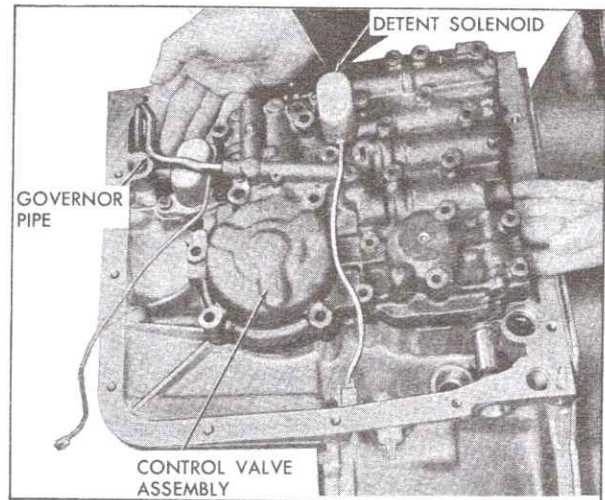

Fig. 7-143 Removing Control Valve Assembly
5. Remove control valve assembly with remaining governor pipe attached, Fig. 7-143.